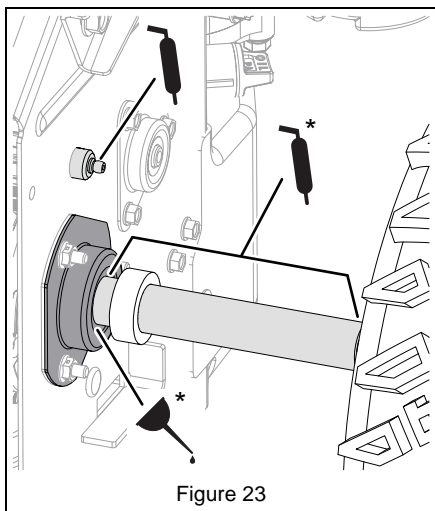

Figure 23
2. Lubricate as shown in Figure 22 and Figure 23.